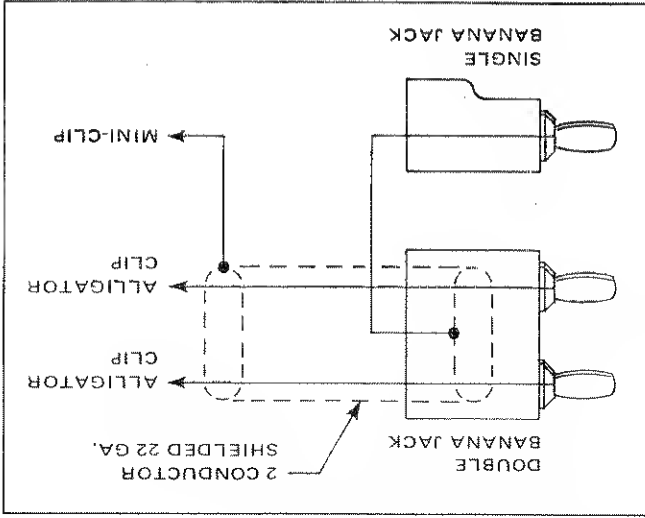

Figure 2.2 - Cabling Diagram, Binding Posts
2.15 Input cables to fit this type of connector can be ordered from Dana (P/N 402190). Figure 2.2 is a wiring diagram of this cable included for assistance to users desiring to construct their own cables.